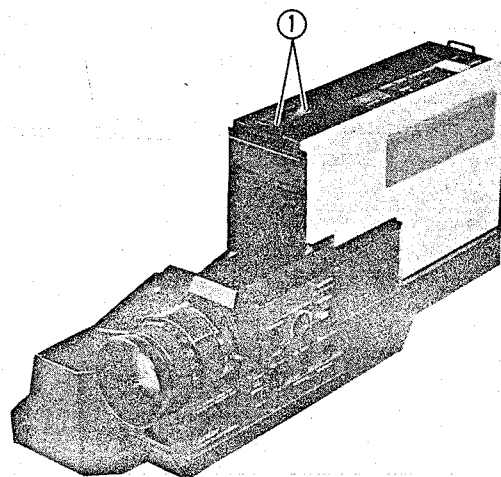

Fig. 2-3 Accessory Shoe Removal
Accessory Shoe Removal (Fig. 2-3)
3. Remove the accessory shoe. (See Fig. 2-3)